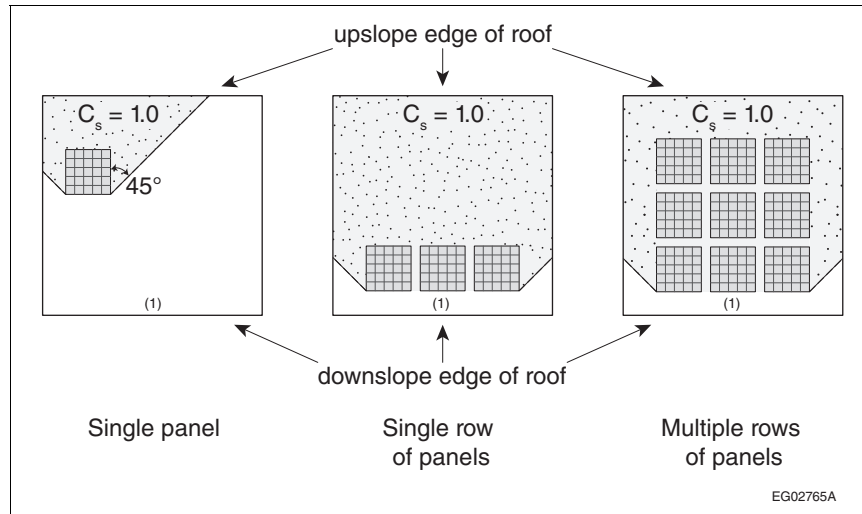

Figure A-4.1.6.16.(3)
A-4.1.6.16.(3) Snow Obstructed from Sliding by Solar Panels. Figure A-4.1.6.16.(3) shows the areas on sloped roofs with solar panels where snow is considered to be obstructed from sliding by the solar panels and the slope factor, C_s , must be taken as 1.0.